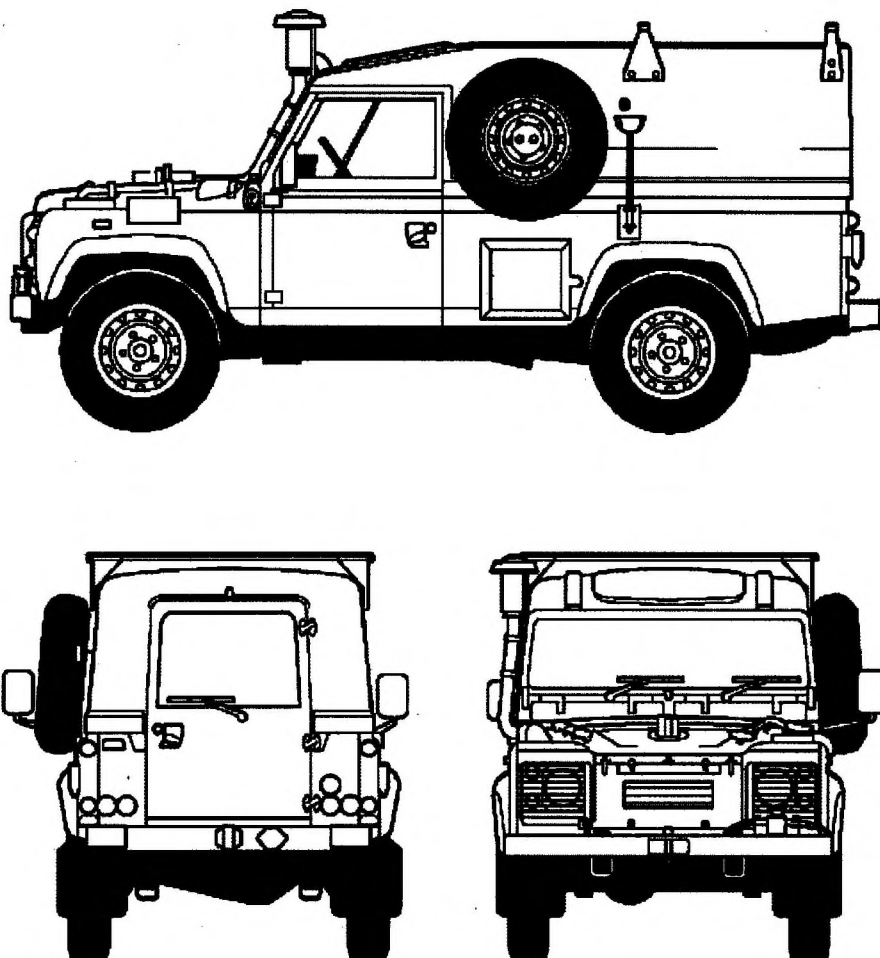

Fig 4 Winterised/Waterproofed dimensions
6.4 Table 5 and Fig 4 identify the dimensions for the Winterised/Waterproofed.